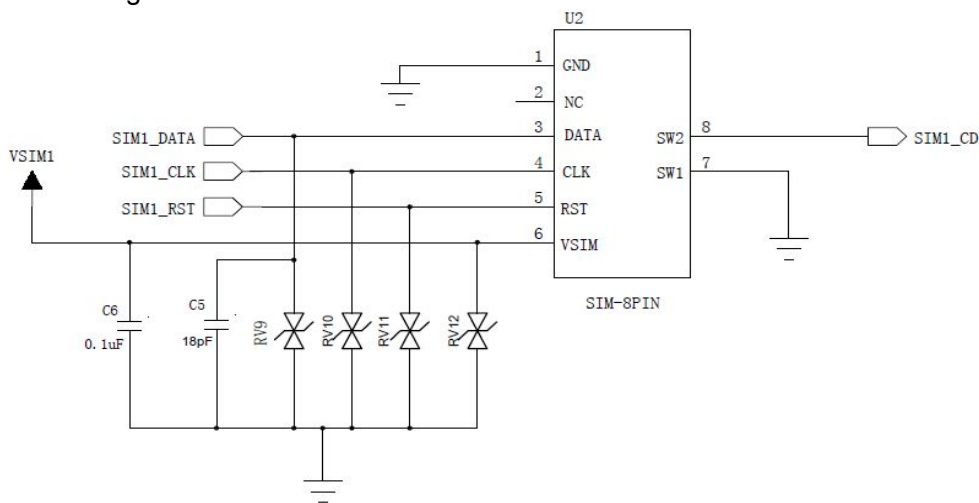

Figure 5-7 Reference Design of “Normally Closed” SIM Card Interface
- For “Normally closed” design, as shown in the figure5-7, the SIM1_CD signal is connected to U2’s Pin8 (SW2), and Pin7 (SW1) is connected to the ground. When the SIM card is not inserted, SW2 and SW1 are shorted, and SW2 is low. When the SIM card is inserted, SW2 and SW1 are opened, and the SIM1_CD signal will be pulled high.